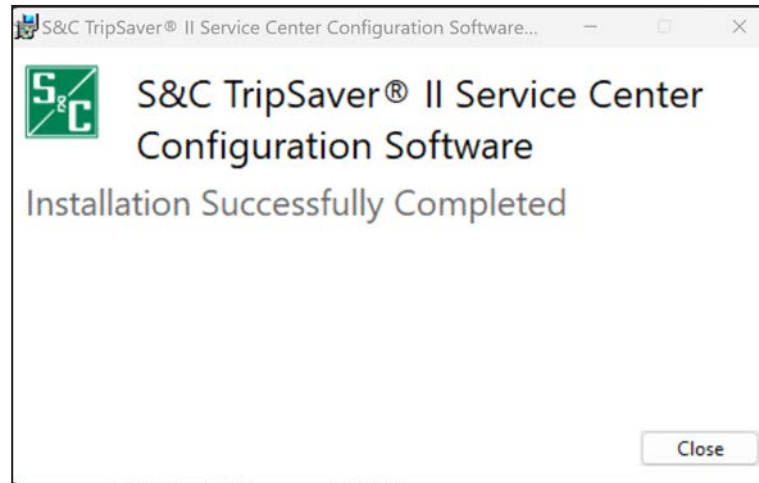

Figure 8. The SCC Installation Successfully Completed dialog box.
STEP 6. When TripSaver II Service Center Configuration Software has been installed successfully, the Installation Successfully Completed dialog box opens. See Figure 8. Click on the **Close** button to exit the installer.